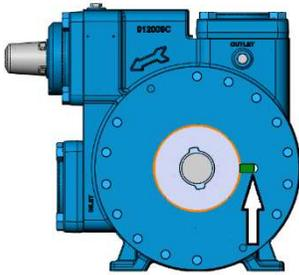

Figure 17 Groove placement
4. Place the head ring (20A) against the liner with the seal pressure groove in the 3:00 position toward the discharge (see Figure 17).
2. Slide Rotating Seal Face onto Rotor/Shaft (13), while making sure to align Rotor Seal Alignment Pin with Rotating Seal Face hole. See Figure 17. Ensure that ID O-ring is not damage as it slides over shaft threads.